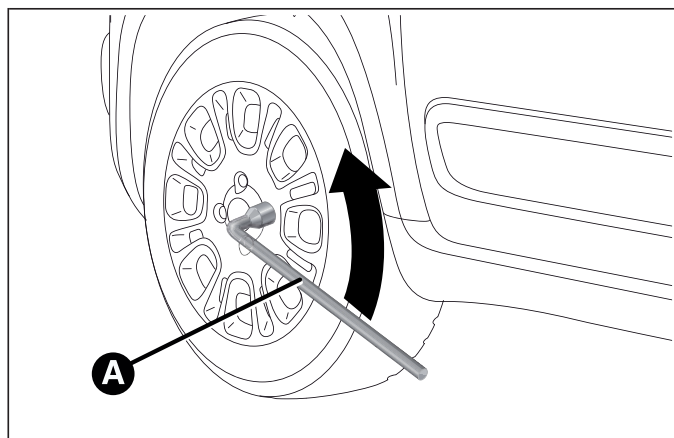

fig. 113
- ☐ take the wrench A fig. 113 and loosen the fixing bolts by about one turn;
- ☐ take the wrench A fig. 113 and fully tighten the fixing bolts;